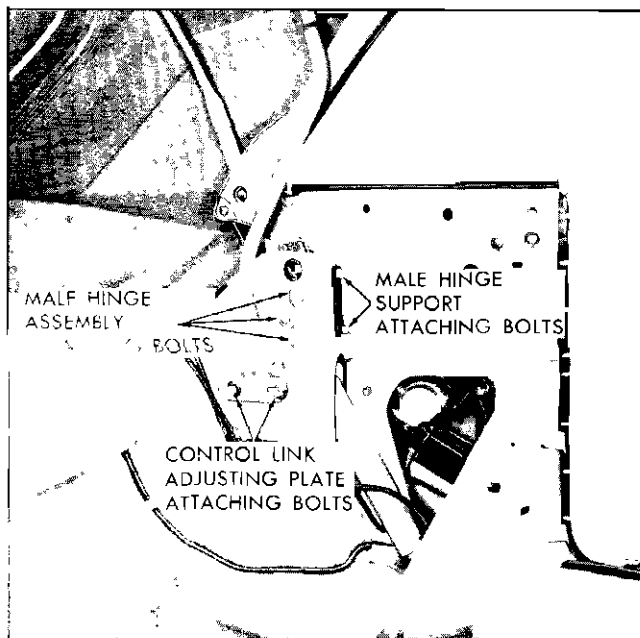

Fig. 7-20 Folding Top Adjustments
- a. Remove folding top compartment side trim panel and loosen two bolts securing control link adjusting plate (Fig. 7-20) sufficiently to permit adjustment of plate.
a. Loosen three male hinge assembly attaching bolts (Fig. 7-20)
b. Loosen male hinge assembly attaching bolts and male hinge support front attaching bolts (Fig. 7-20).
d. Tighten hinge support front attaching bolts, then while maintaining proper alignment of scribe marks on top of hinge, tighten hinge assembly attaching bolts (Fig. 7-20).